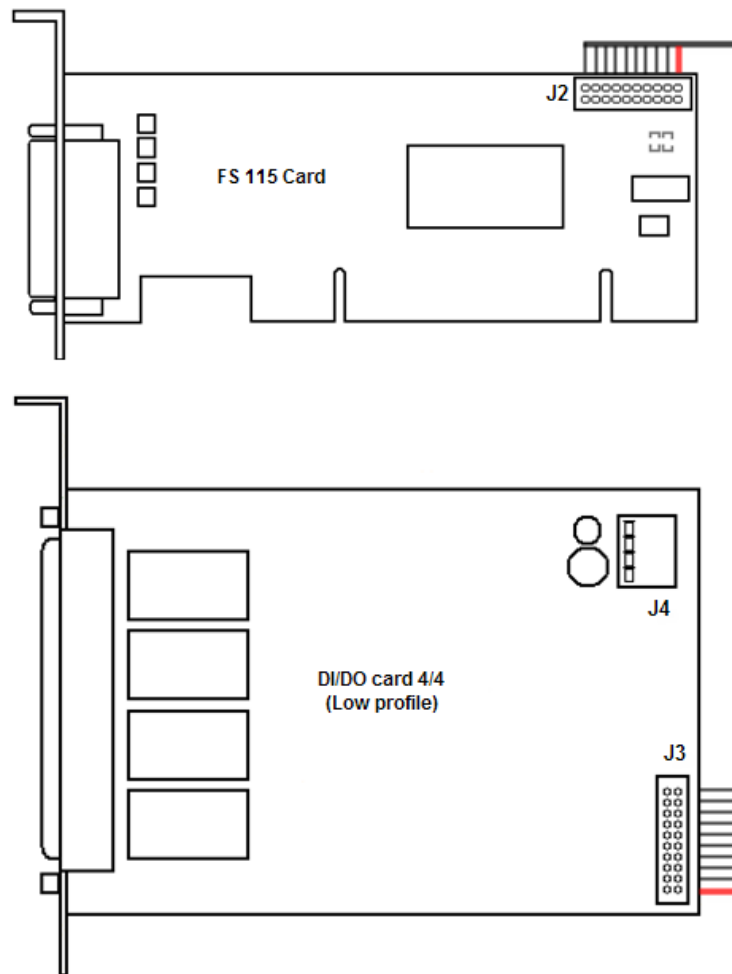

Figure 2.4-13 Diagram of the 4/4 DI/DO (low profile) card connection to FS115 card
2. Connect the 4/4 DI/DO (low profile) card to the video capture card with the help of loop included in the distribution kit. The loop is connected to J2 and J3 connectors (Figure 2.4-13 and Appendix 5. Video capture cards pins section).
3. Connect the cable of computer PSU (disk drive power supply) to J4 connector (Figure 2.4-13) of the 4/4 DI/DO (low profile) card.